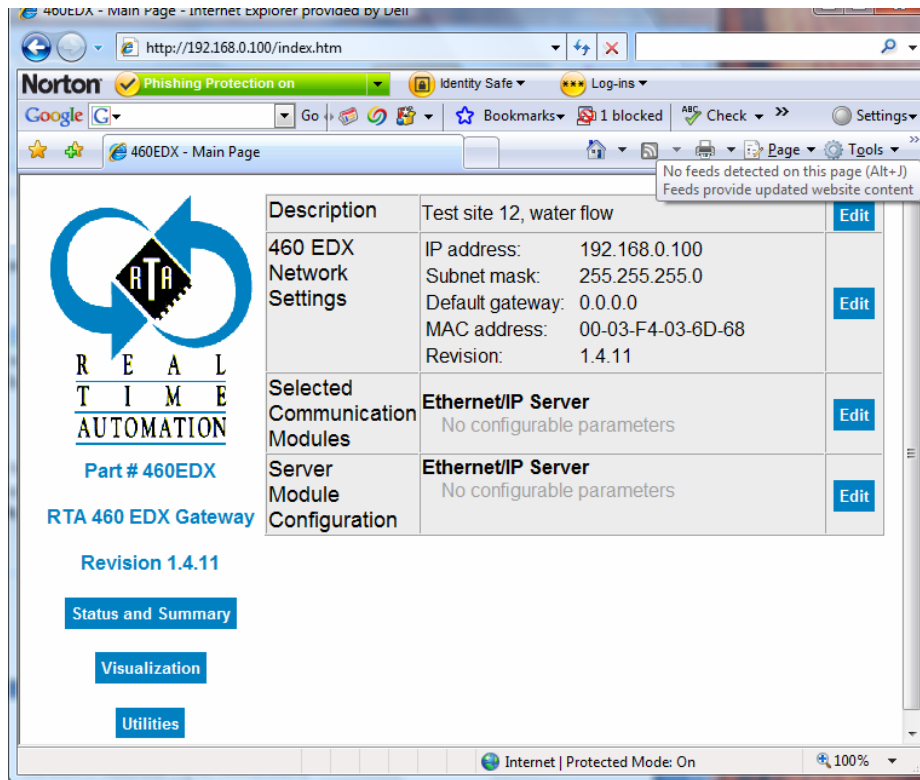

Figure 2-36 EtherNet/IP Server Configuration
5. Click on the Return to Main button. The RTA 460 Gateway Main Page displays with the updated EtherNet/IP Server information. See Figure 2-36.